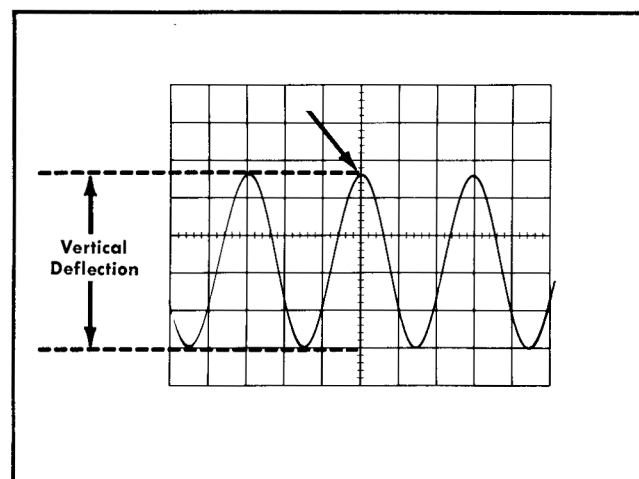

Fig. 2-1. Measuring the peak-to-peak voltage of a waveform.
6. Turn the POSITION control so that the lower portion of the waveform coincides with one of the graticule lines below the centerline. With the time-base Position control, move the display so one of the upper peaks lies near the vertical centerline (see Fig. 2-1).
As an example of this method of measurement, assume that the peak-to-peak vertical deflection is 4.6 divisions (see Fig. 2-1) using a  $10\times$  probe and a VOLTS/DIV setting of .5. Using the formula: